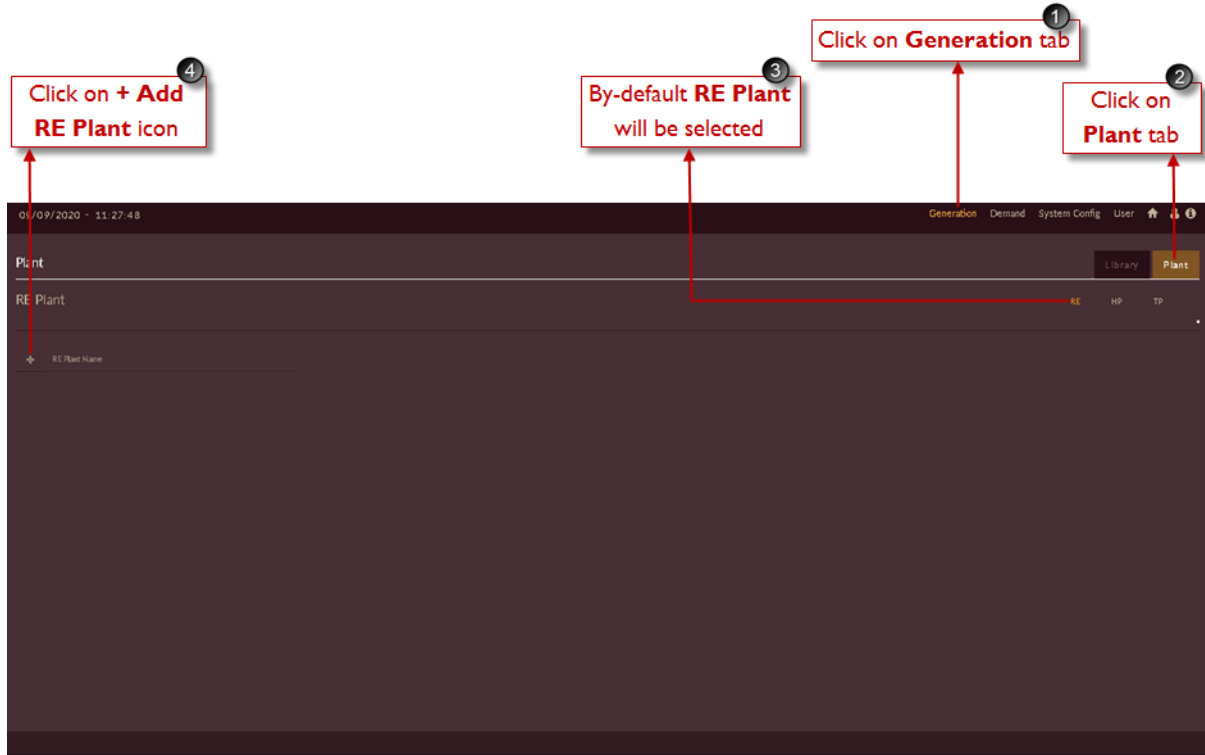

Figure I36. Steps to Add RE Plant
2. Click on **Plant** tab. The Plant tab appears as shown in Figure I36